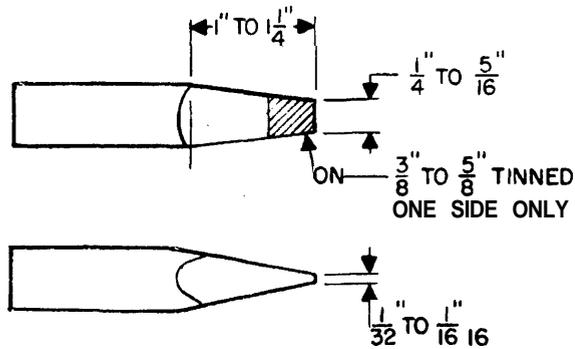

Figure 2. Shaping Plain Copper Tips.
- (e) Continue to dress the tip until it conforms, as closely as possible, to its original shape, as seen in Figure 2.